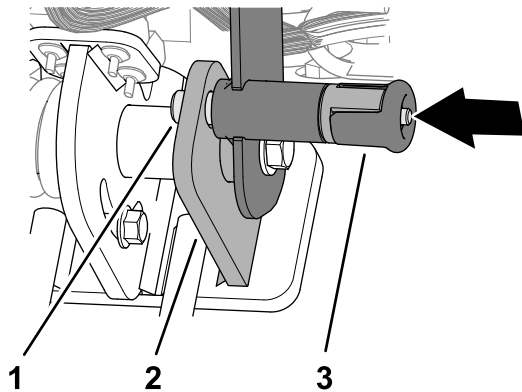

Figure 66
2. Ensure that the handlebar-latch pin extends through the hole in the detent plate (Figure 66).